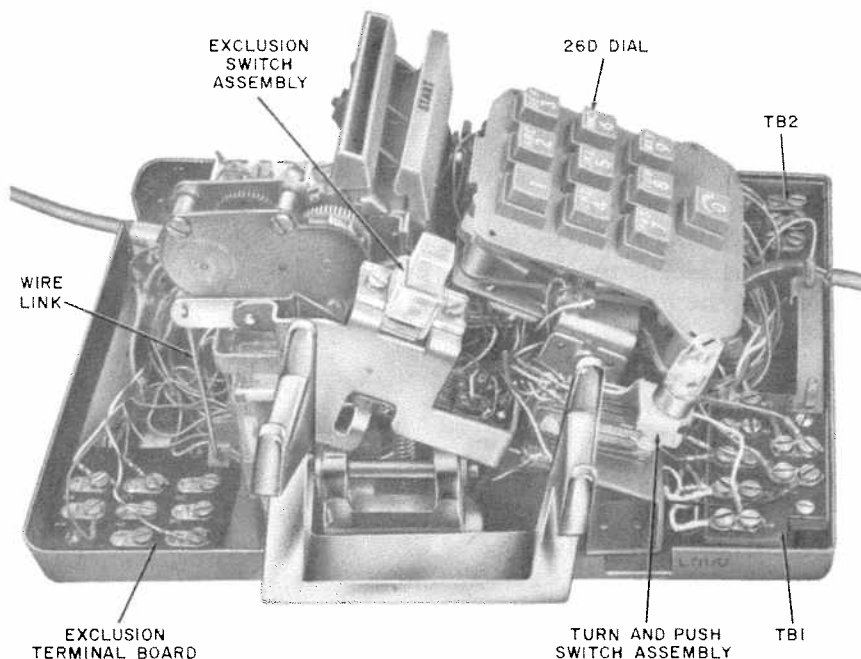

Fig. 4 — 1660-Type Telephone Set, Cover Removed
2.06 Early 1660- and 1663-type telephone sets use a 26B dial. Later sets use a 26D dial (Fig. 4). On the 26D dial, (S-BK) lead replaces the (BL-W) lead and is wired to the RR punching instead of R. A 26D dial can replace a 26B, but a 26B cannot replace a 26D.
- (1) Connect wire link to exclusion switch assembly. The wire link has two 90 degree bends on both ends. Insert short end of wire link (Fig. 4) into hole provided at rear of switch assembly.
- (2) Mount switch assembly to switch hook mounting bracket. Be sure wire link enters hole provided in arm of switch hook. Fasten assembly with three furnished screws.
- (3) Dress wiring between switch hook and dial so terminal board is located at left rear of set (Fig. 4).
- (4) Fasten terminal board to base with two furnished screws.
- (5) Replace D3BN with D6AF mounting cord and make proper connections.
- (6) Replace faceplate with one supplied in kit of parts.
- (7) Replace housing and check set for proper operation.
- (1) Mount turnbutton-pushbutton switch assembly (Fig. 4) on left side of set in front of switch hook. Use two shouldered screws furnished in kit.
- (2) Dress wiring across front of dial so terminal board is located at right front of set. Fasten terminal board to base with two furnished screws.
- (3) Replace D3BN with D10L mounting cord and make proper connections.
- (4) Replace faceplate with one supplied in kit of parts.
- (5) Replace housing and check set for proper operation.
- (1) Remove housing as shown in 3.02.
- (2) Disconnect spade tipped dial leads from network and TB1 (Fig. 4).
- (3) Lay set on side and remove two screws holding dial to base. Dial can then be lifted out.